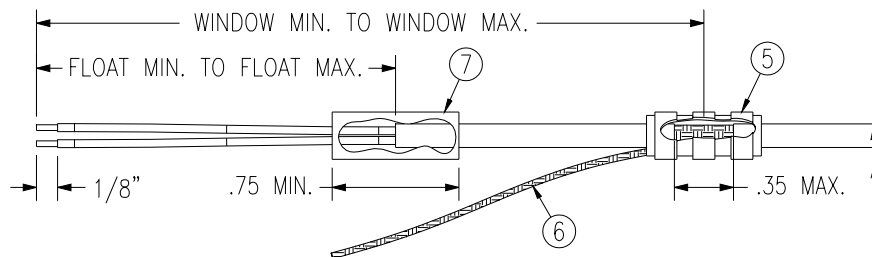

Figure 3-2. Shielded Cable Preparation
2. At one end of a shielded cable (4) measure back a distance between “Window Min” to “Window Max” (Table 3-5) and cut a window (max size 0.35”) in the jacket to expose the shield. (See Figure 3-2). Use caution when cutting the jacket to avoid damaging the individual braids of the shield. When dealing with a densely populated connector with many cables it may prove beneficial to stagger the windows throughout the “Window Min” to “Window Max” range. If staggering is not needed the “Ideal Window” length is recommended.
3. Connect a Flat Braid (6) to the shield exposed through the window of the prepared cable assembly (4). The Flat Braid goes out the front of the termination towards the connector. Do not allow wires to exit the rear of the termination and loop back towards the connector. (See Figure 3-2). Make this connection using an approved shield termination technique. Refer to FAA Advisory Circular AC 43.13 as a reference for termination techniques.
4. At the same end of the shielded cable (4) and ahead of the previous shield termination, strip back "Float Min" to "Float Max" (Table 3-5) length of jacket and shield to expose the insulated center conductors. (See Figure 3-2). It may be best to build the "Ideal Float" length optimally.